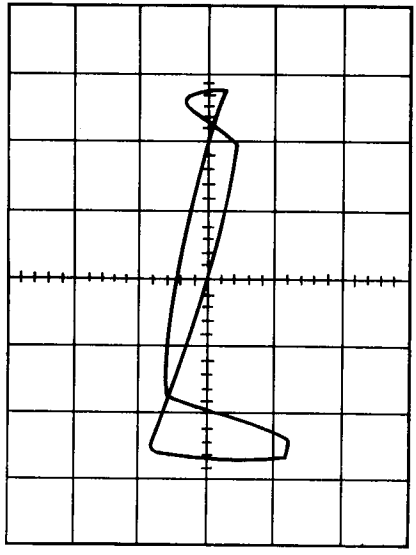

Figure 10. Residual Output of Analyzer at Clipping, Without Evidence of Parasitic Oscillation at 20 Hz
4. Adjust the generator output level until clipping occurs, as displayed by the oscilloscope. See Figure 10.
7. Adjust the generator output level until clipping occurs. See Figure 10.